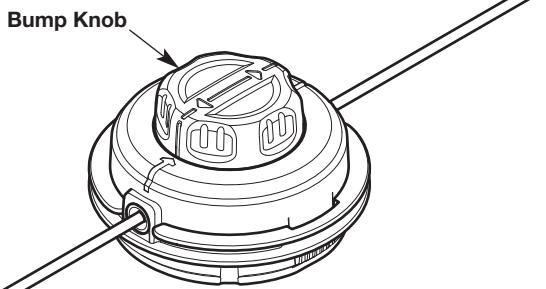

Fig. 22
5. Turn the bump knob to wind the line until about 5 inches (12.5 cm) protrude from each side of the cutting head (Fig. 22).